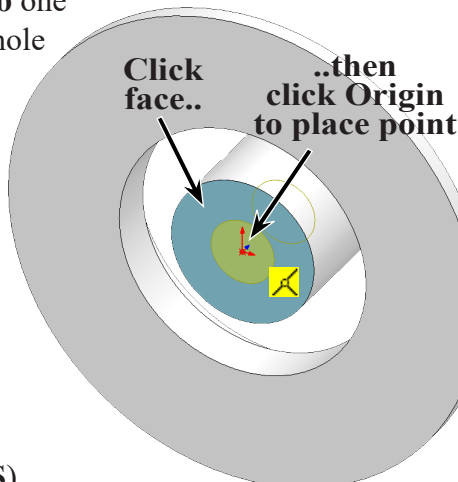

Fig. 11
Step 1. Rotate view to back side, **Fig. 11**. To rotate view, **Ctrl-Shift** click the **Y** axis of the **Reference Triad** (bottom left corner of graphics area).
Origin  to place the point, **Fig. 11**.